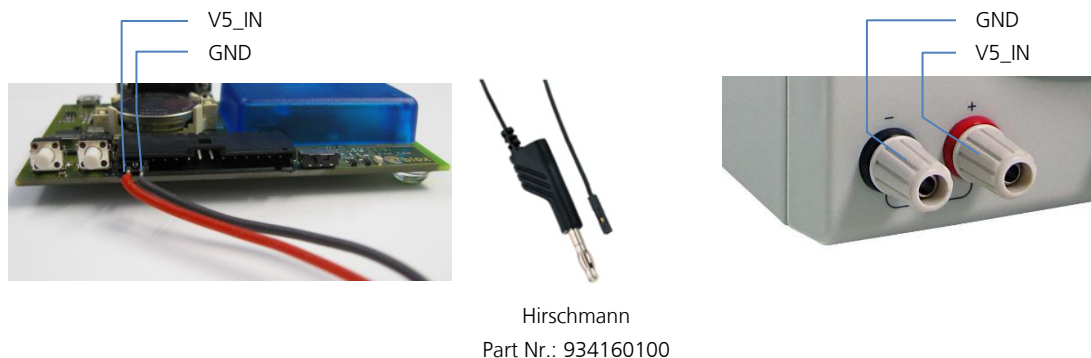
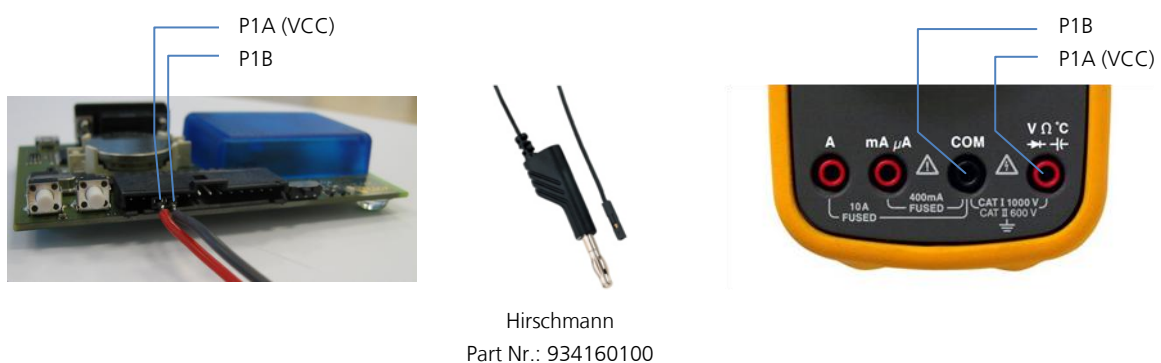

Figure 4: Example 5V DC power supply
Figure 5: Example – tracking current measurement
For accurate measurements, it is recommended to use a cable of at most 1 meter in length. Figure 4 shows an example of a power supply connected to the test connector by using standard adapter cables from the manufacture Hirschmann. Figure 5 shows an example for overall current measurement.
1. Connect a true rms voltmeter across P1A (VCC) and P1B of the front connector (see Figure 5).